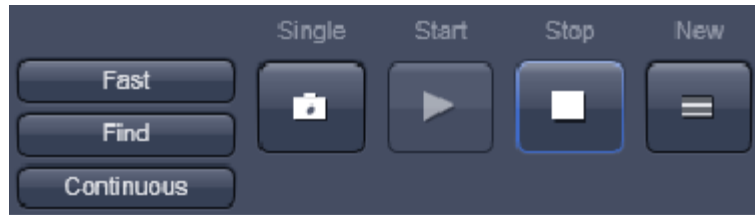

**Fig. 5: Scan Mode Settings**
2. Choose scan mode: Line, Pinhole: 1 AU, Gain of 100-300 (don't want spikes) (See fig.5 and 6)